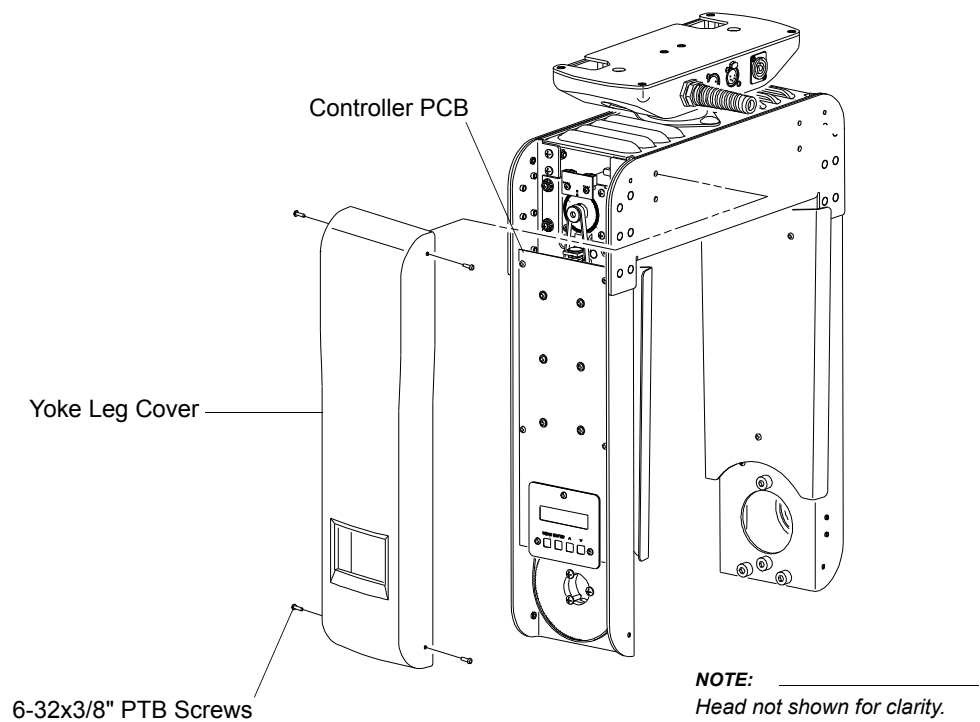

Figure 2-14: Removing Yoke Leg Cover to Access Controller PCB
Step 3. Remove yoke leg cover (side with menu display) by removing four 6-32x3/8" PTB screws (Figure 2-14).